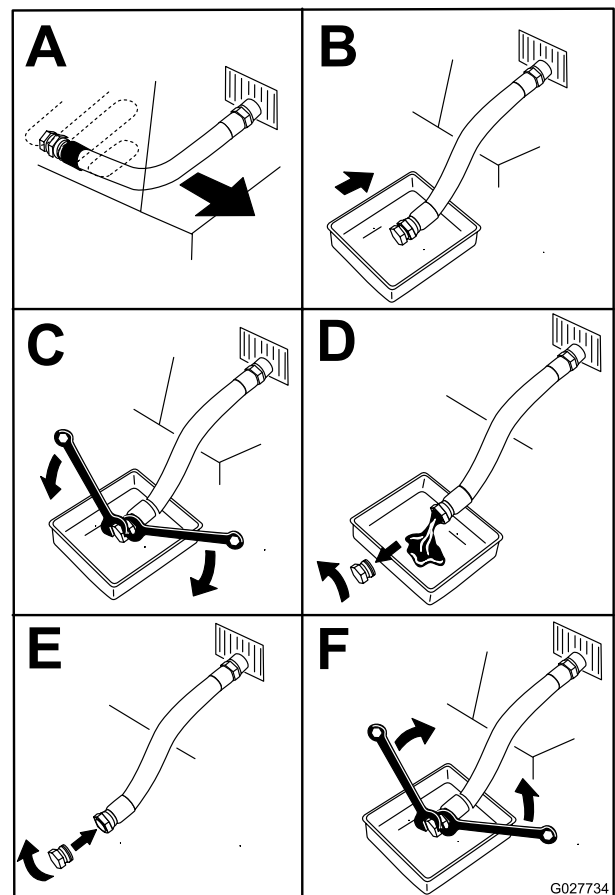

Figure 44
4. Change the engine oil (Figure 44).